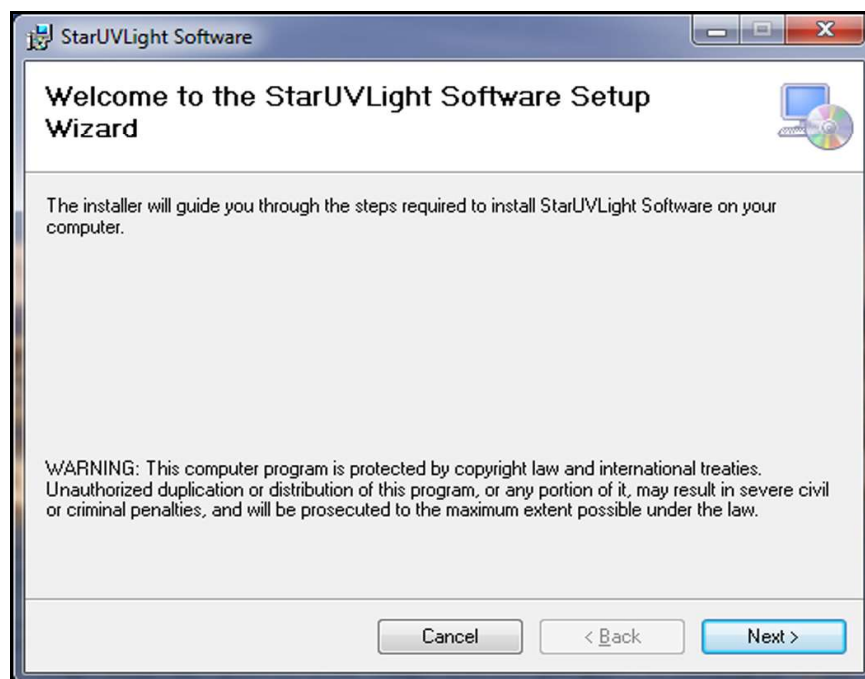

Figure 3-1: First screen of the UV Light software installation
4. Once the InstallShield Wizard begins, click the 'Next >' button (Figure 3-1).